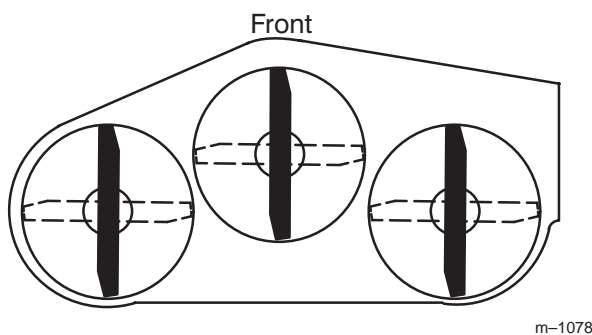
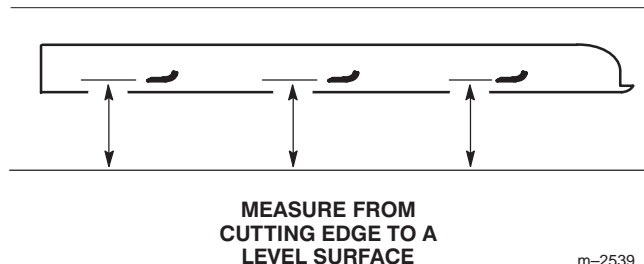

Figure 29
Figure 30
2. Rotate the blades until the ends face forward and backward (Fig. 29). Measure from a level surface to the cutting edge of the blades (Fig. 30). Note this dimension.